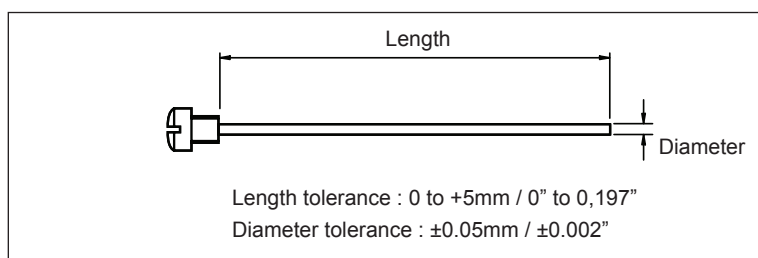

Figure 7 SAFEKEY Dimensions
- 7 Lightly grease all Piston grooves, gear form and Piston 'O' Rings (4) and fit the 'O' Ring (4) and Wear Ring (3) to the Piston.
- 8 Fit the Bearing Block (10) to the back of the Piston.
10.3.2 Counter-Clockwise rotation (Pistons moving inwards, Fig. 7).